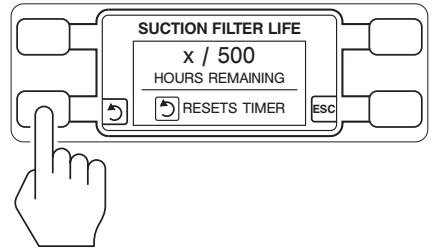

Figure 6 – To Reset Timer Value
5. The SUCTION FILTER LIFE screen will appear. Press the display button (RESETS TIMER) to change the current value of the filter life to 500 hours (Figure 6).